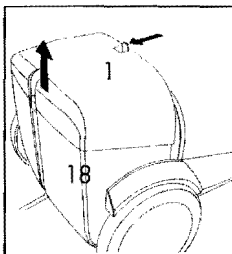

Fig. 19
- o remove the dirty eater container and cover (1+18) from their respective seats on the appliance. Fig. 19.